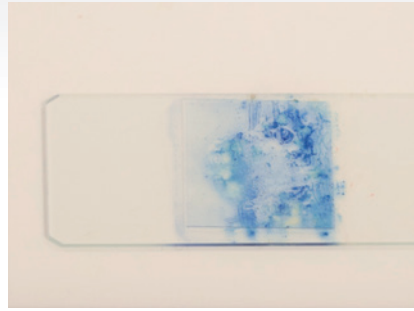

Figure 5 - The slide ready for viewing.
- 9) The slide is now ready for viewing under the microscope (Figure 5).